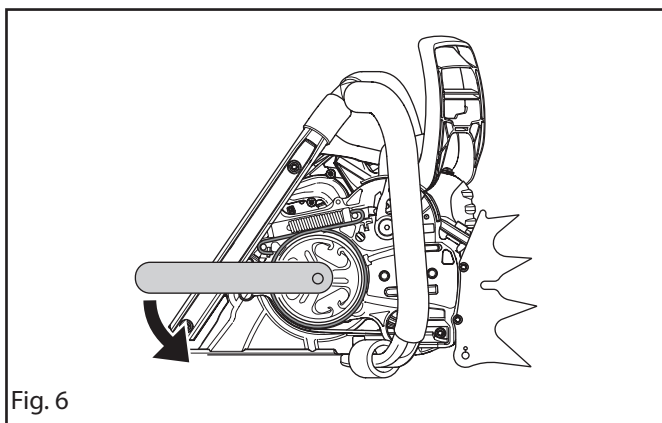

Fig. 6
1. Fit the clutch hub on the crankshaft and tighten with the clutch tool. Make sure that the text on the clutch hub is assembled outwards. See figure 6.
**NOTE!** Left-hand thread. Screw in the direction of the arrow as shown in figure 6.